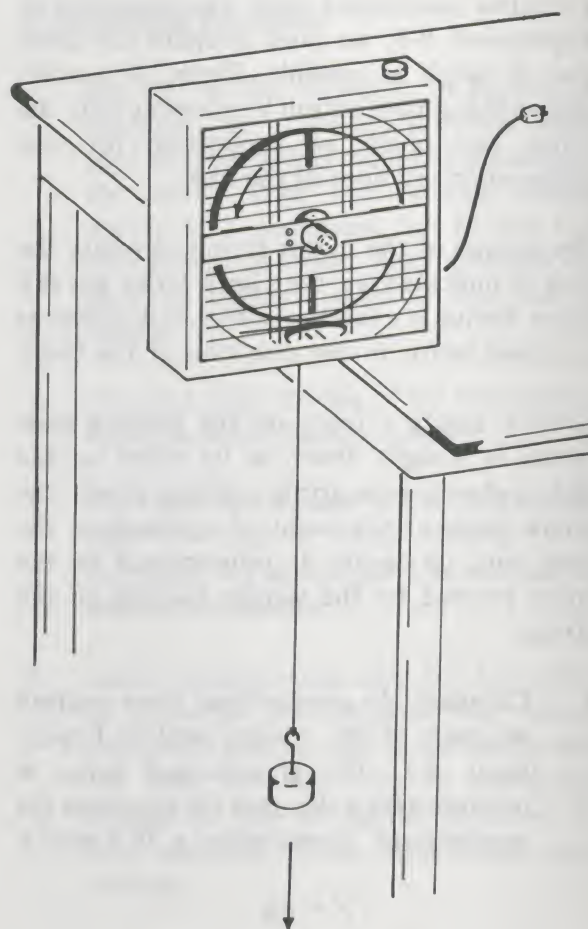

Figure 29. A simple way of producing a constant torque on the disk. As the mass drops, it accelerates the disk counterclockwise.
You can use these results to explore the relation between an applied torque and the amount of rotational acceleration it produces. Figure 29 shows a simple way of applying a constant torque to the fan. Wrap a string around the hub and hang a weight on it. As the weight falls, it pulls on the disk and causes it to accelerate. Notice that the string is also always at right angles to the radius, so the torque produced by the weight is constant during the whole process.
1. Set up the arrangement shown in Figure 29. The fan should be clamped firmly to the table and turned off. Remove all bolts and washers from the disk.